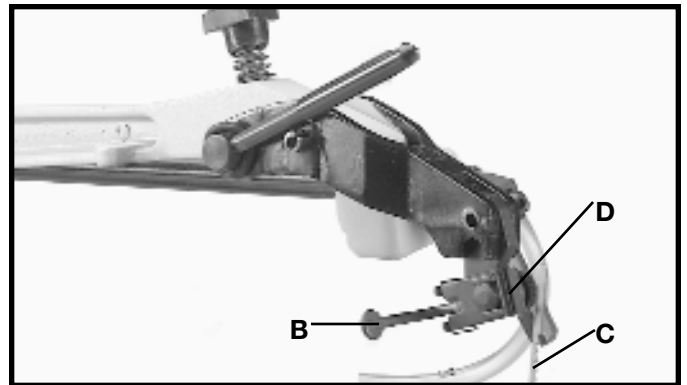

Fig. 4
3. Push chuck locking lever (B) Fig. 4 to the rear as shown. This will release the blade (C) from the upper chuck assembly (D).